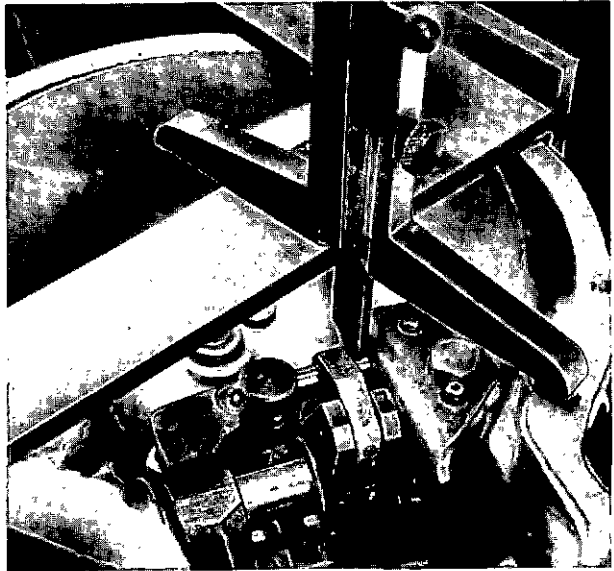

Fig. 53 Checking position of 'S' plate.
6. Invert the governor rear cover and set the control lever to MAX. FUEL so that the pilot pin is at the bottom of the 'S' curve. Place a new gasket on the joint face and measure the distance between the gasket and the pilot pin, as in fig. 53. This should be 24.5 mm (0.965 inch). Using the depth gauge as illustrated, deduct from its reading the thickness of the measuring bar and add 3 mm (0.118 inch), which is half the diameter of the pilot pin. Adjust, if necessary, by means of shims beneath the 'S' curve plate.
- (c) Vary the thickness of the shims beneath the 'S' plate (fig. 53). Reducing shim thickness by 0.15 mm. reduces rack travel approximately 1 mm., and vice versa.